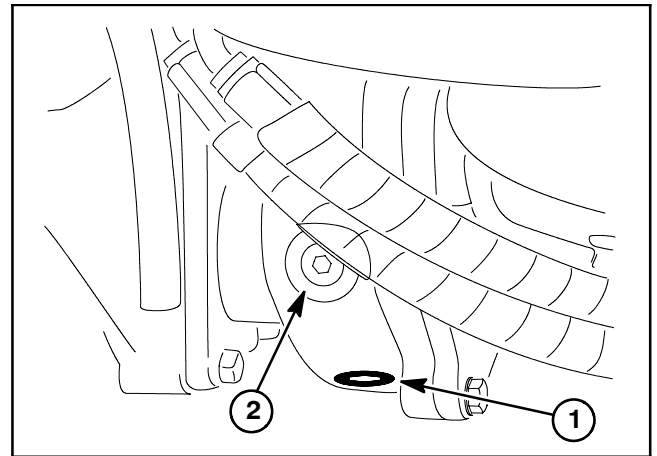

Figure 14
11. Fill gearbox and rear axle with SAE 85W-140 weight gear lube (Figs. 14 and 17). Lubricant capacity is approximately 16 fl. oz. (0.47 liters) for the gearbox and 80 fl. oz. (2.37 liters) for the rear axle assembly.